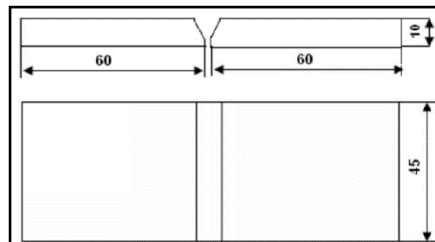

Figure 5.1. V Butt Joint 1
- Required size of the nozzle is selected and it is fixed to the torch using figure 5.1